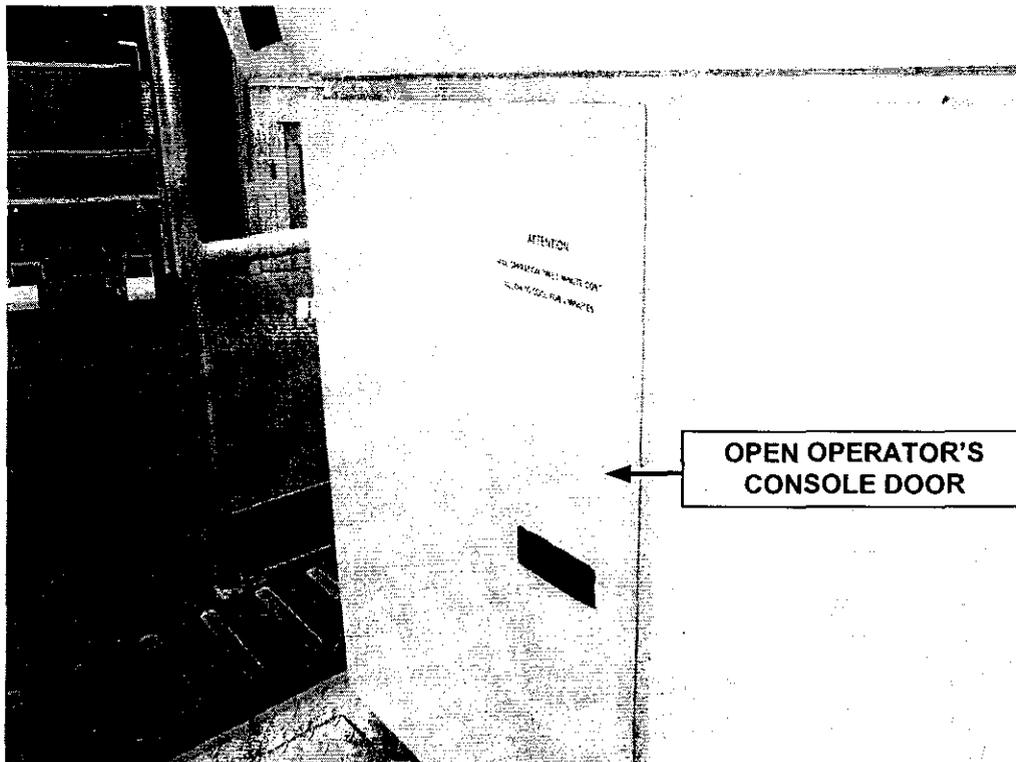

FIGURE 34
2. The power pack can be used to operate auxiliary functions such as the secondary conveyor swing, hood wing raise, legtube elevation, endgates and moldboards. First locate the left hand operators console door and open it (figure 34).